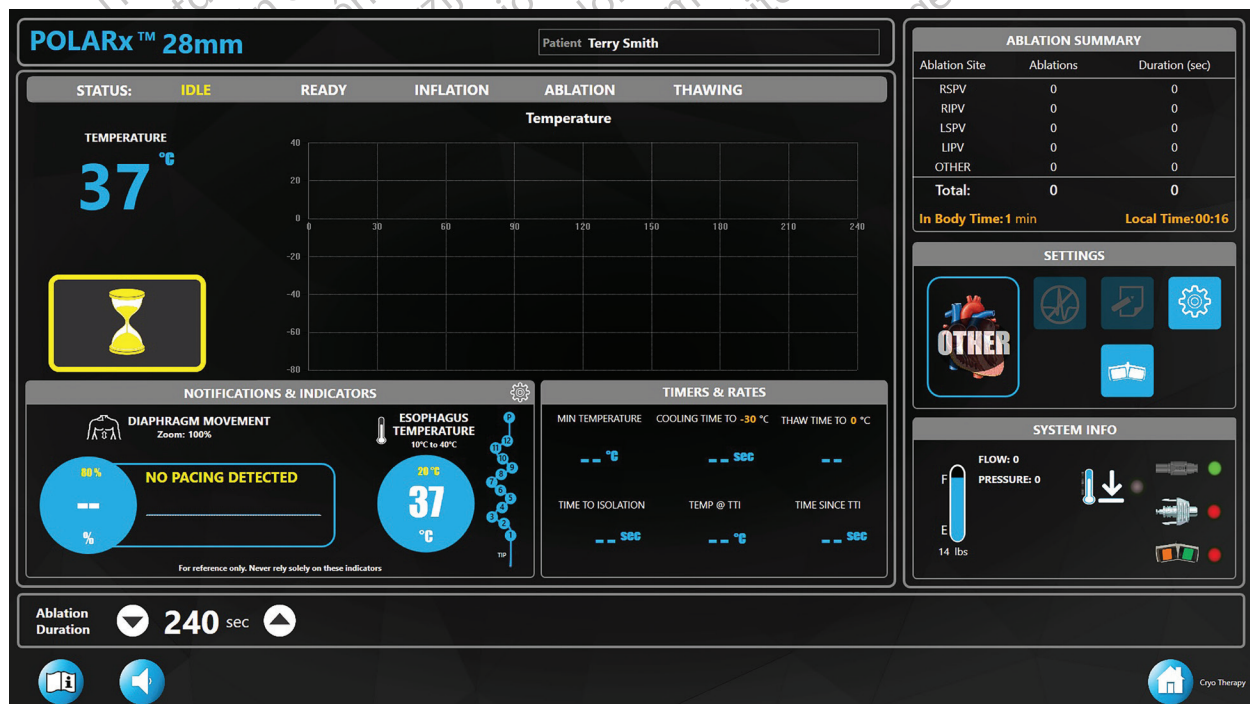
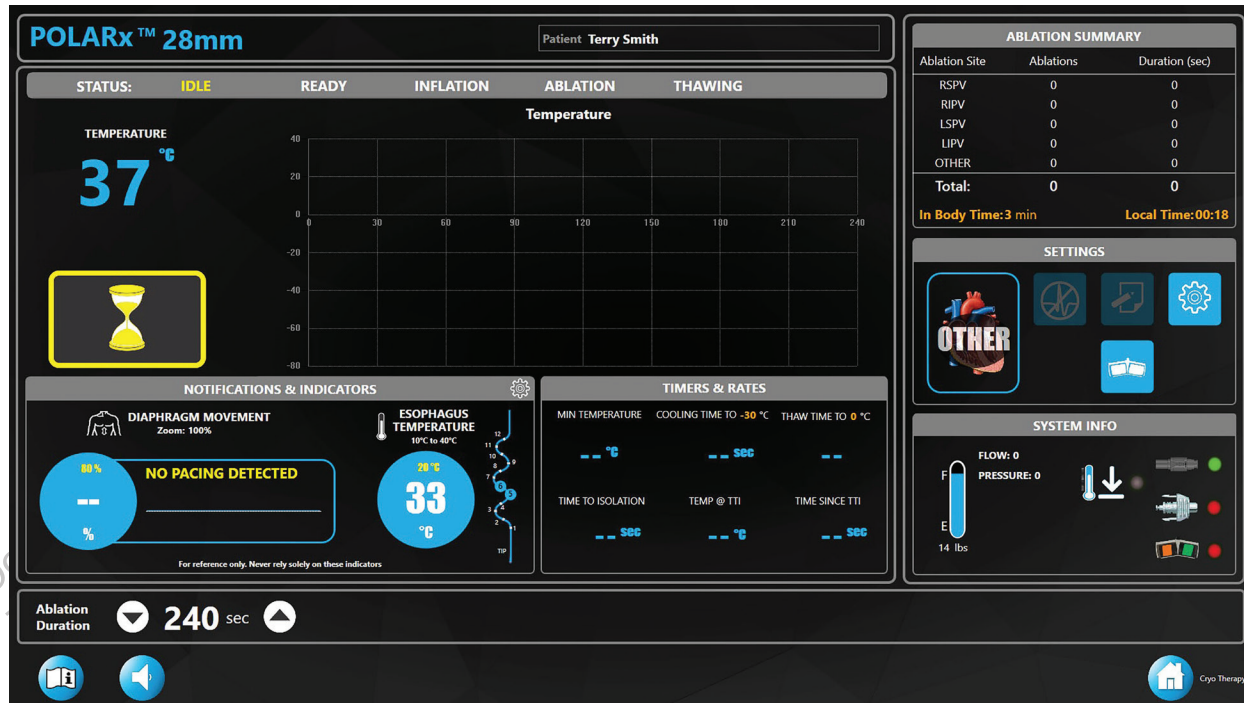

Figure 9. CIRCA™ S-CATH Esophageal Temperature Probe
Figure 10. CIRCA™ S-CATH Esophageal Temperature Probe - Low Temperatures Selected
- If using a CIRCA™ S-CATH Esophageal Temperature Probe, with or without a series 400 temperature probe, an image of the CIRCA™ S-CATH Esophageal Temperature Probe will automatically be displayed (Figure 9). A typical CIRCA™ S-CATH Esophageal Temperature Probe has 12 sensors with some models including a proximal sensor.
- The displayed **Esophagus Temperature** will always be the lowest temperature measured of all of the sensors. The sensor with the lowest temperature will also be highlighted in blue. As the temperature drops in affected areas, only the sensors with the lowest temperature will be highlighted (see Figure 10). Note that it is possible for more than one sensor to have the same temperature as in Figure 9.